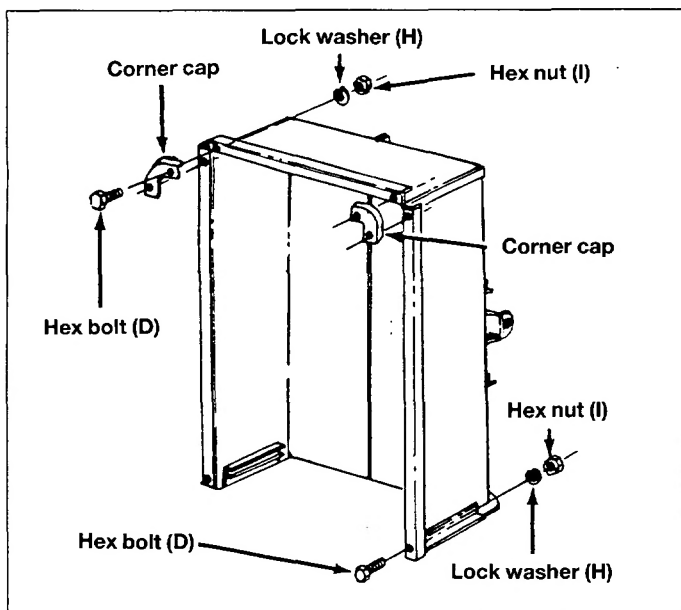

Fig. 10
15. Assemble two front top corner caps and two bolts in top flanges through tailgate reinforcement bracket using $1/4" \times 1/2"$ (6 \times 12 mm) hex bolts (D), lock washers (H) and hex nuts (I). See figure 10.